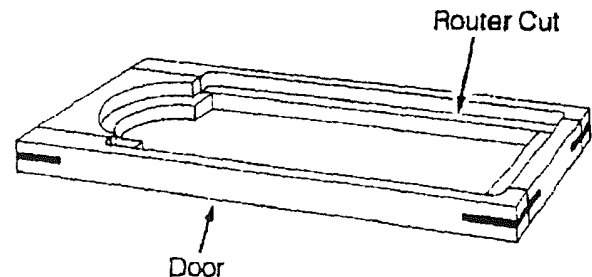

FIGURE 35
**MANY ROUTING APPLICATIONS (SUCH AS SHOWN IN FIGURE 35) WILL REQUIRE THE FENCE TO BE REMOVED FROM THE TABLE.**